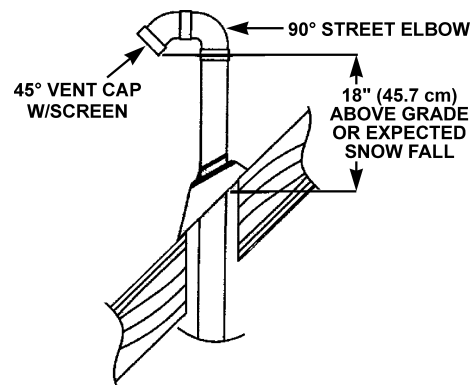

FIGURE 9.
- The vent exhaust outlet and air inlet terminals shall terminate at least 18" (45.7 cm) above the roof surface, see Figure 9.